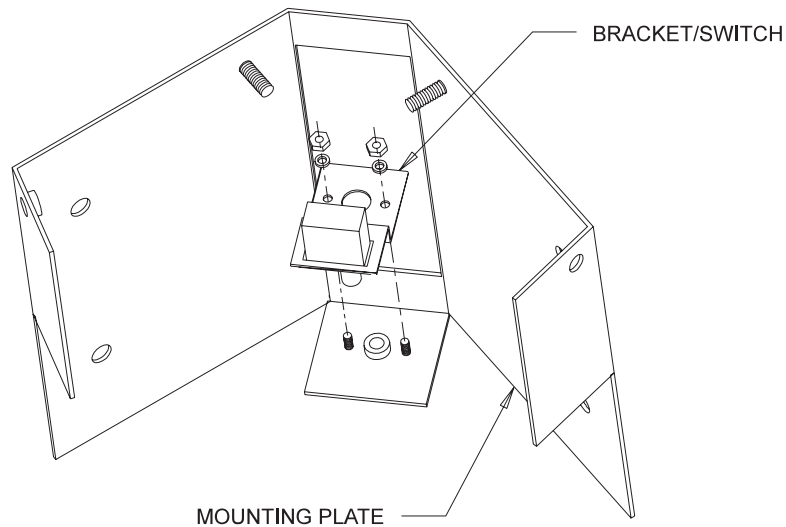

Figure 4. Tamper Switch Installation
2. Using the mounting bracket (see Figure 4) or the template provided, mark and drill holes in the mounting surface.
The HS1500 enclosure comes standard from the factory with a tamper switch installed. Should it become necessary to install a replacement switch, refer to Figure 4 for the correct position of the bracket/switch and perform the following steps: